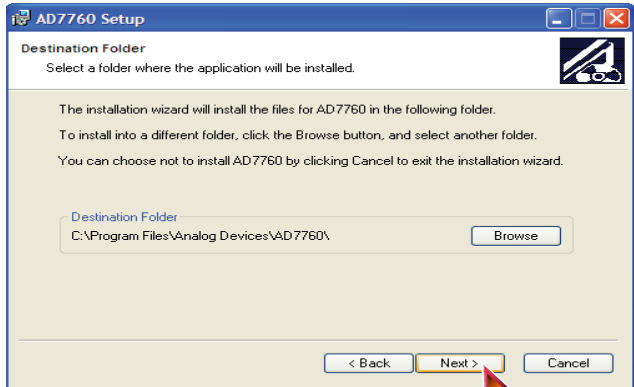

Figure 3. Choose the Destination of the AD7760/AD7762/AD7763 Software
3. The installation wizard allows the user to choose where the installation should be located (see Figure 3). If a different location than the default is preferred, click **Browse** and select the desired location. When ready, click **Next**.